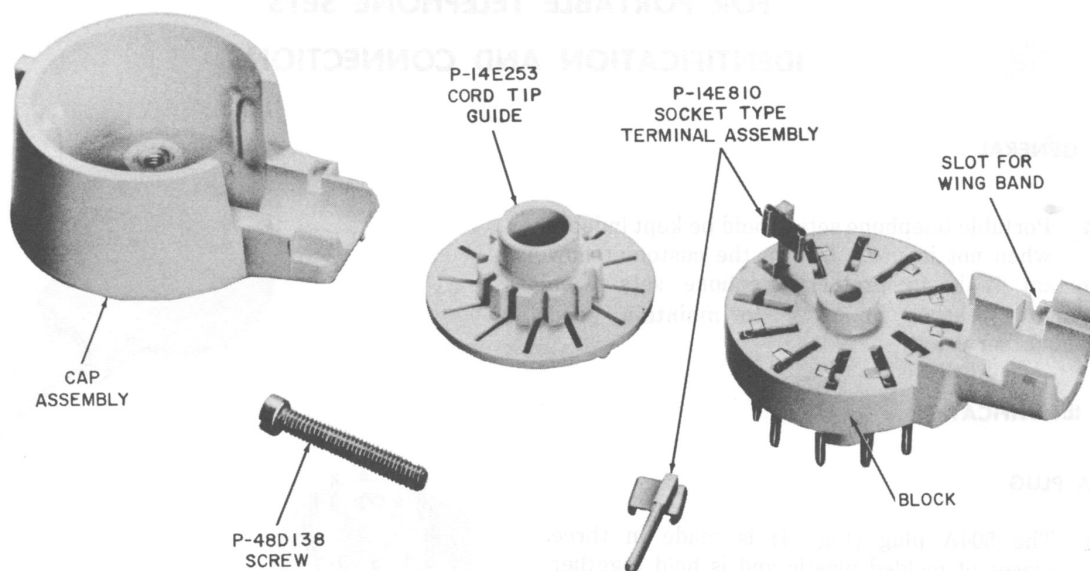

Fig. 5—504A Plug Disassembled
**2.06** Slots are provided on plug block and shell (Fig. 5) to hold a wingband or clipped stay hook.
**4.05** Place cord tip guide on block (Fig. 5). Insert mounting cord tips into socket type terminals of plug.